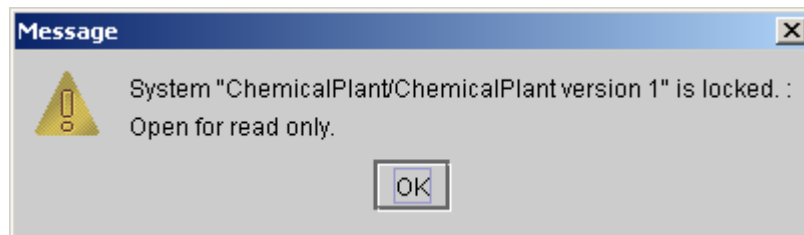

Figure 142: Message when a system is locked
- ◆ If the system is locked, it can be open in the read only mode. A warning message is displayed (Figure 142). A system can be locked: